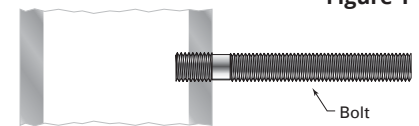

Figure 1
1. Install the Adjust-A-Body® with Threaded Bolt Tensioner by threading the short end of the bolt into the pre-tapped hole in your end post using a 1/4" open-end wrench. (Figure 1)